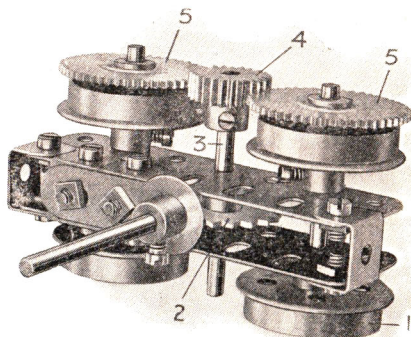

Fig. 4
Four trucks similar to that shown in Fig. 4 are frequently employed as the wheel base of gantries, travelling cranes, etc. The drive from the motive power is carried by chain to the Sprocket Wheel (2) and is transferred